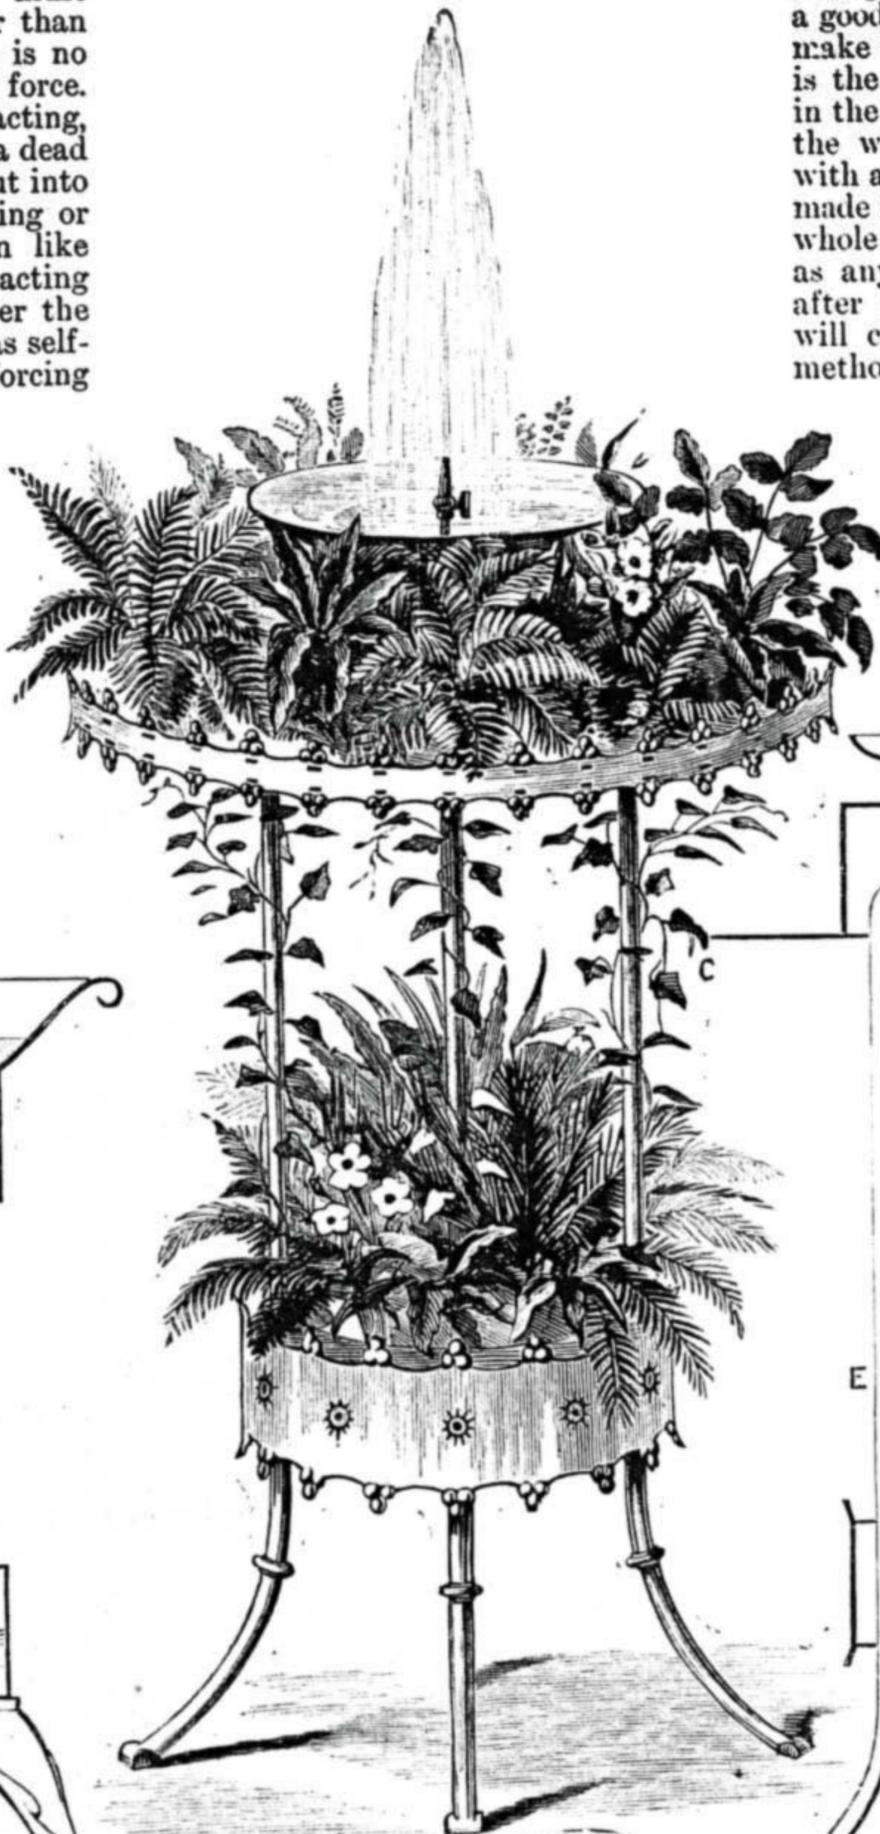
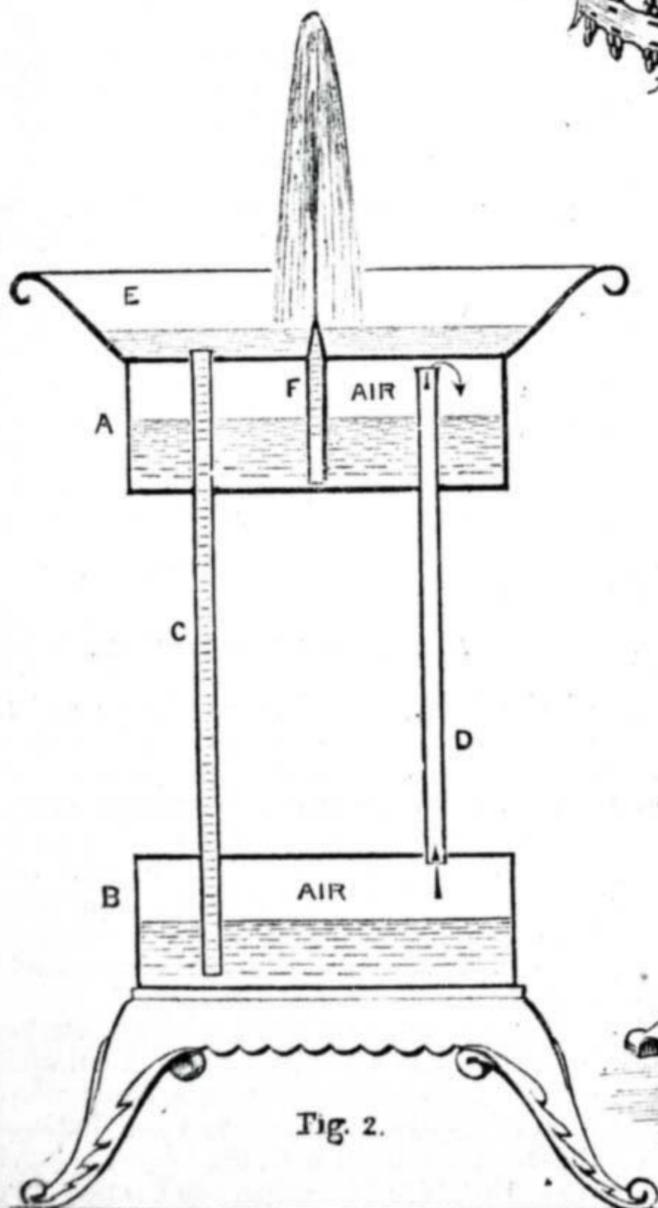
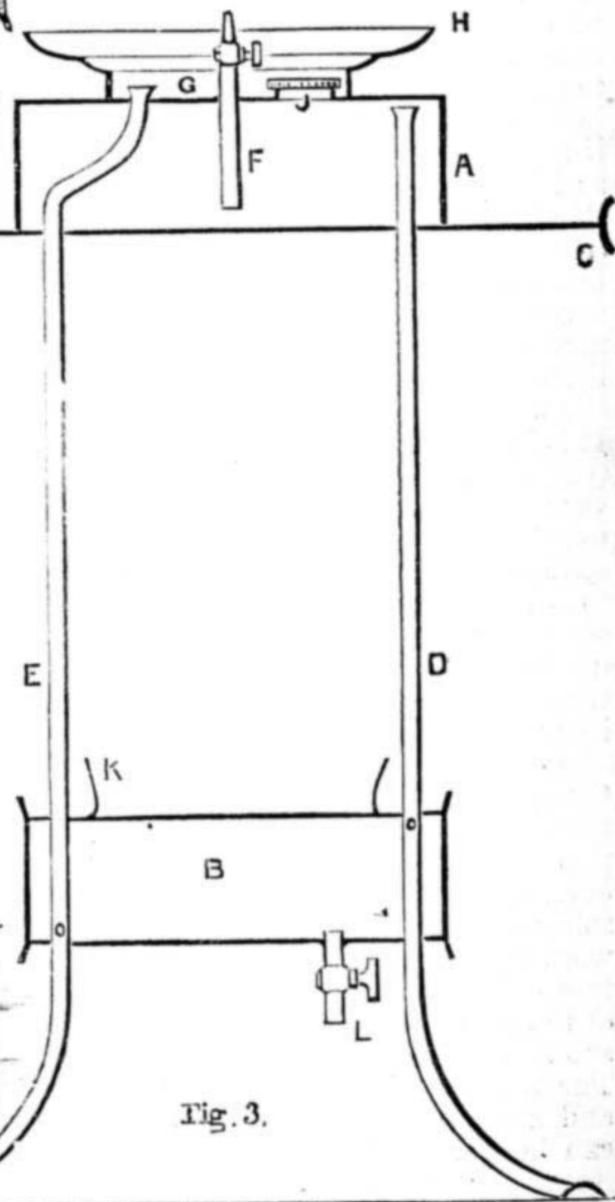

Fig. 1.
Fig. 2.
Fig. 3.
Fig. 1.—Design for Ornamental Self-Acting Fountain Table, complete and furnished with Plants. Fig. 2.—Diagram showing Construction and Working of Hero's Fountain. Fig. 3.—Section of Fountain Table showing Method of Construction.
fountain, which contains no weights, wheels, springs, or any movable parts, and yet works with unerring accuracy so long as the vessels remain sound. This principle is called hydro-pneumatic—the action of water and air. The principle admits of an indefinite number of forms and arrangements in the exterior, of which Fig. 1 is one; and may be made in any dimensions. This kind of fountain is interesting, moreover, from the fact that it is one of the oldest contrivances in existence, and is known to have existed two thousand years ago, being described in the "Spiritualia" of Hero, who lived some fifty to one hundred years before the Christian era; and, however much the exterior may have changed phases since, the ingenuity of mechanical men has been unable, through all those centuries, to make any improvement in its construction which will render it more effective. Fig. 2 is a diagram illustrative of Hero's arrangement. It consists of two vessels, A and B, air and watertight, except at their openings, which communicate with each other by pipes, having a lip, or basin, on the upper edge of A. If water is poured into E, it will run down the pipe c, filling B, the air escaping up D, and out at the jet-pipe F. The water will continue to run until the pipe D becomes full, and the bottom of A covered with water sufficiently high to cover the mouth of the jet-pipe. No more will, however, run in then, as the air is no longer displaced. Now, if the fountain be turned upside down, the contents of B will run through D and fill A, the air escaping through the jet pipe. If, now, the fountain is set upright, we have A full of water and B full of air. If water is then poured into the basin, it will, as before, run down c, but the air can no longer get out at the jet-pipe, because the latter is immersed, so that the air in B becomes compressed by the hydraulic force of the water of the pipe c, and as this compressed air passes up D into the upper part of A without loss of force, it follows that the water of A is under the same pressure as B, but as it is so many inches higher up than B, the water of A will, if released at the jet-pipe, endeavour to flow as high as the length of the pipe c, minus its dip, and will continue to do so as long as any compressed air is left to force it up, but not a moment longer. The process of reversing the apparatus—or some other method of getting the water out of B and lifted up into A—must now be performed if the work of the fountain is to be repeated. It is just this power which has to be exerted (varying in proportion as the dimensions vary) which stands between our self-acting fountain and perpetual motion. The object of the design at the head of this article is to cover the bald arrangement of Hero, with some attempt at ornamentation as well as usefulness; and to so arrange the periodical recharging of the upper vessel as to reduce its inconvenience to a minimum.
Any one who can solder may undertake the making up of this fountain with a certainty of success; and as the ornamental portion is bought ready made, and really covers the work, even a little clumsiness of soldering will be out of sight; but the worker should, before setting to work, thoroughly read and understand the working of the fountain—the rest is very easy. Fig. 3 shows in section the arrangement of parts. The vessels are made of No. 10 sheet zinc, and are ornamented with zinc fret, which can be obtained from Messrs. Still & Co., metal spinners, Charles Street, Hatton Garden, E.C. The legs consist of lengths
of brass tube, four in number, arranged as shown (Fig. 3). The question of measurements is one which must be left entirely to individual taste. I may mention, however, that I found a very convenient size measured—height over all, 3 ft.; width of fern tray (C C), 18 in. (inside); water vessels (A and B), each 12 in. diameter \times 3½ in. deep; legs of ¾ in. brass tube; water well, or basin (G), 8 in. diameter \times 1½ in. deep; glass centre-dish (H), 11 in. or 12 in. diameter. It will be seen that very great inconvenience would arise if it were necessary to invert this fountain each time it stopped playing, to obviate which a draw off tap L is used, in conjunction with an *air-tight* screw filling-plug J. With above sizes, the fountain will throw up a pretty jet to a height of about 20 in. for about one hour at each operation, the process of recharging occupying about one minute, the same water being used over again.
To make up such an one, the worker will require to cut out a circle of zinc 18½ in. diameter, and three circles of 11½ in. diameter. These should be turned up at the edges all round for ⅓ of an inch. If not experienced at this, send the sheets to the tinman to be jennied, costing a few pence only. For the ornament round edge of fern tray, use No. 240 fret (Still's Catalogue), soldered on securely all round, and *watertight*, or a disagreeable mess is made when watering the plants. I have used the same fret for B, but with the stamping upon a wider margin; but as this is difficult to procure in small quantities, the maker of one or two fountains must be content to use an edging of narrow fret top and bottom of B, making up the complete cylinder in sheet metal first. The brass legs are carried right through the lower vessel and under side of top. Great care must be taken that the holes for these are true with each other. These are made with a ¾ centre-bit. Having settled these, it is best to solder to each leg (at the point where the bottom of vessel will be soldered) a small piece of metal, so as to prevent the vessel going too far on, and to hold up the work until it can be tacked together. The novice will find the four legs somewhat "wobbly" as he endeavours to make them stand upright. To get over this, prepare a piece of board, and sink four holes to correspond with the size and position of those in the zinc; pass the leg through B, and put over their upper ends the piece of wood, the sunken holes of which will hold the legs tight and true until you get the lower part soldered up. Notice (Fig. 3) that a hole must be made in the pipe D at the point indicated, also a hole in the pipe E just above the bottom of vessel. The other two legs are dummy pipes. All the legs must be stopped up by soldering at bottom. The pipe D reaches to not quite the top of A, to allow an air vent. The upper curved end of E is employed to bring it inside the basin G. If the worker can manage it in one piece the better, but if not, a bit of ½ in. compo. tubing may be joined on. A length of ¾ in. compo. will do for the jet-pipe, and a convenient jet is formed by using what is termed among gas-fitters a cigar-light cock, to be had through a dealer in gas-fittings. The glass dish can be obtained at the same source, termed a "glass consumer," with about a 1 in. hole in the centre, cost about 1s. 6d. retail. This rests loosely upon G. For the filling-plug J use a "lamp feed screw," with a soft and effective washer. The bareness of the legs is taken off by festooning them with artificial